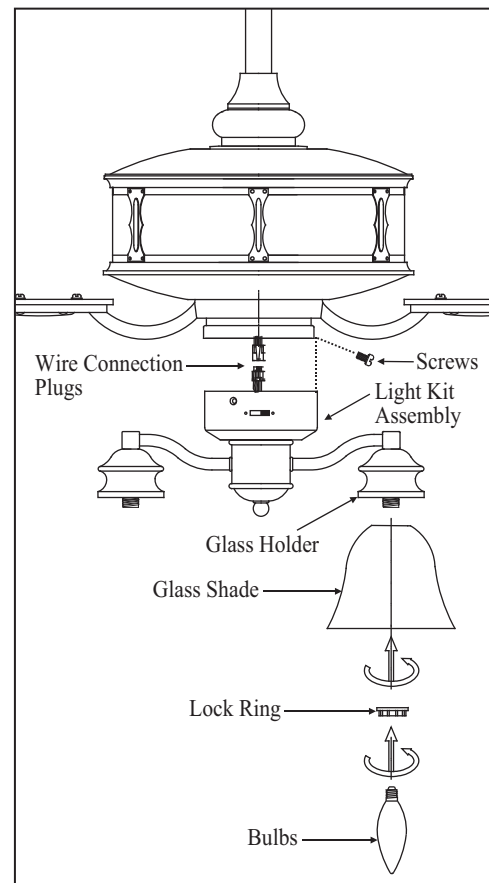

Figure 19
5. Carefully push all wires back into the switch housing, then install the light kit assembly onto the mounting plate with 4 screws provided. Be sure to tighten all screws. (Fig. 19)
turning the lock ring counter-clockwise Until it unlocks. Insert the glass into the glass holder and turn the lock ring clockwise to tighten the glass. Repeat for the remaining glass. (Fig. 19)